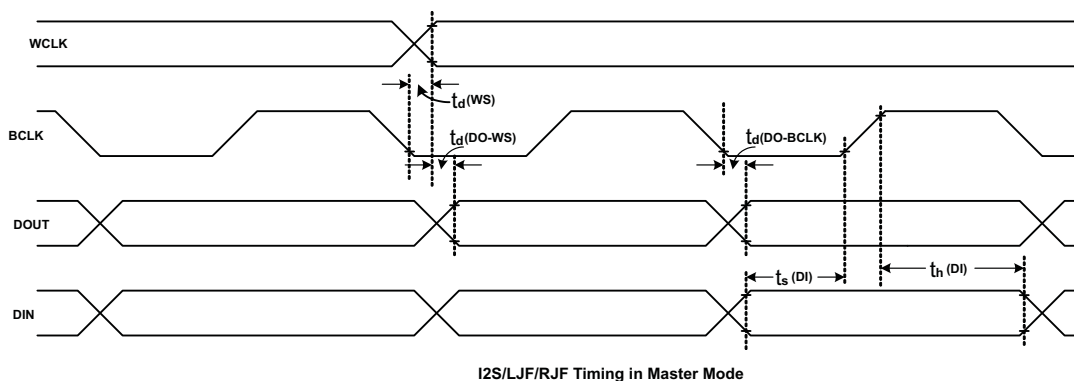

Figure 3-2. I²S/LJF/RJF Timing in Slave Mode
3.4.3 TYPICAL TIMING CHARACTERISTICS (see Figure 3-2)